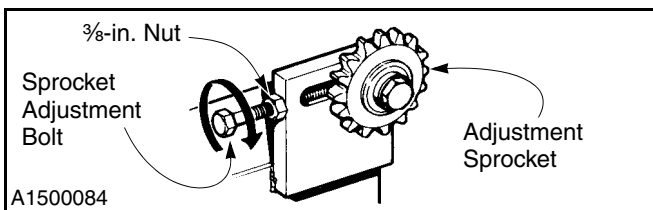

Figure 30
5. Loosen the 3/8-in. nut securing the sprocket adjustment bolt. Turn the sprocket adjustment bolt clockwise or counterclockwise to adjust the chain tension. Tighten the nuts securing the sprocket and sprocket adjustment bolt. (See Figure 30.)